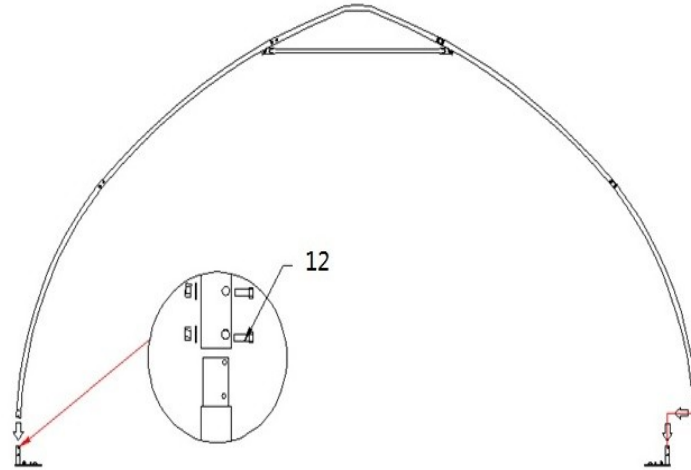

Figure 4
- Recommend a forklift to lift the truss up or a couple of people to pull from different directions. When the truss is up, tie the ropes to the heavy objects to make sure the truss will stay upright and use bolt (#12) to connect the truss to the baseplate on both sides (Figure 4).
- (4) Hex bolt M8x60 and nut (#12)